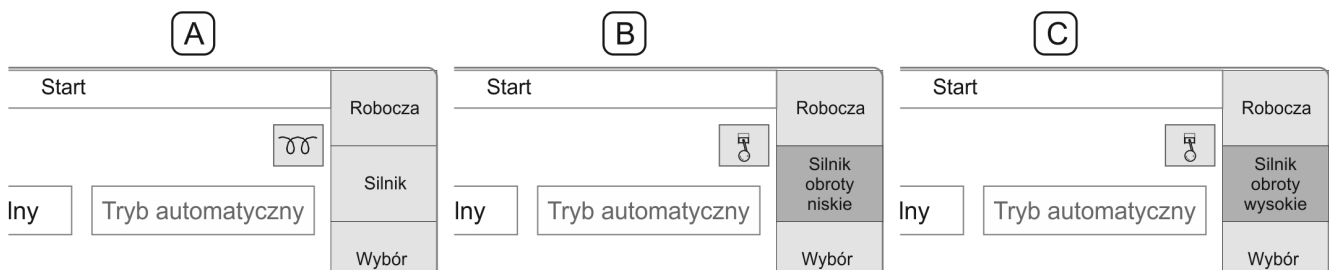

FIGURE 4.23 Starting the engine
- On "Start" home page of the control panel (FIGURE 4.23), start the engine by pressing and holding "Engine" push-button for 3 seconds (heating of glow plugs is switched on and the engine should start and run at a low speed – this is signalled by corresponding indicator lights).